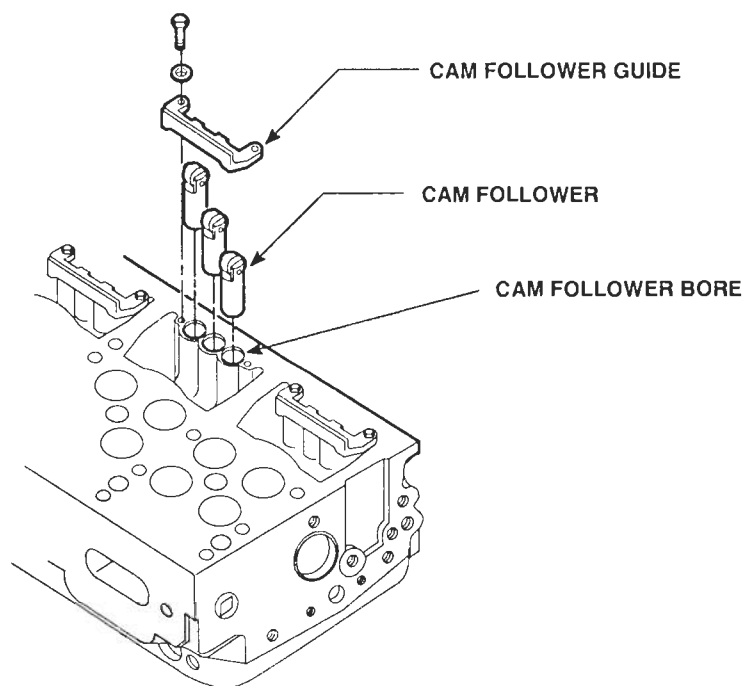

Figure 3. Cam Followers and Guides
1. Rest the cylinder head on its side and remove the cam follower guide (Figure 3.)